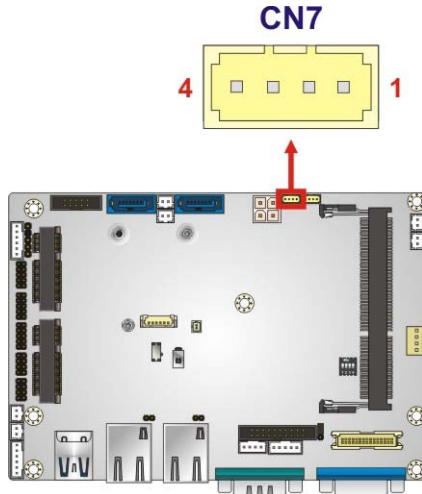

Figure 3-8: I²C Connector Location
- CN Location:** See **Figure 3-8**